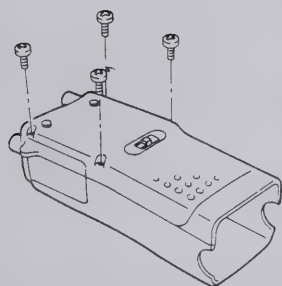

Fig. 1
- 2 Unscrew the four screws on the rear (Fig. 1).